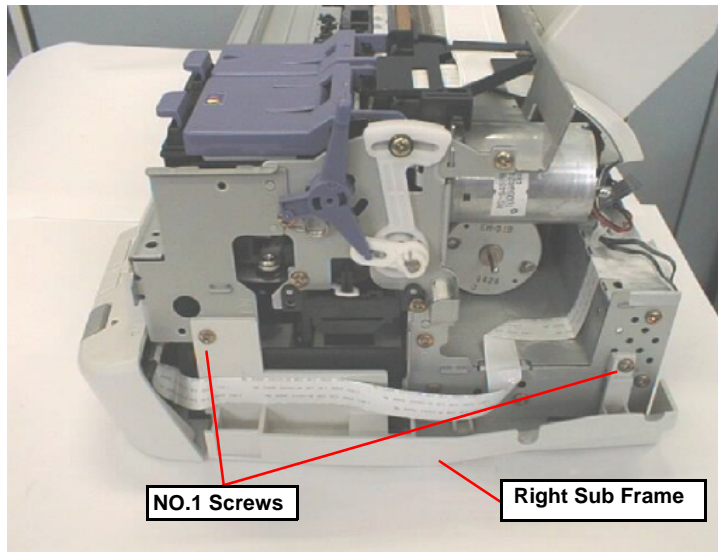

Figure 4-12. Removing the Right Sub Frame
3. Remove two screws (No.1) securing the Right Sub Frame. Refer to Figure 4-12.